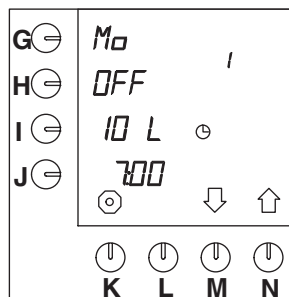

Fig. 12 Default pre-programmed setting
- Subsequently, the next pre-programmed time setting appears on the display (fig.12).
- After this the next time setting appears on the display (fig.12).